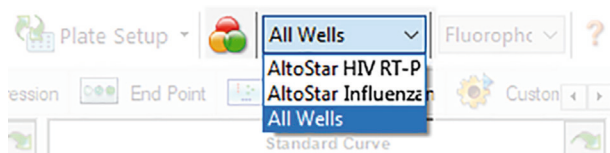

Figure 4: Well Group button and Well Group drop-down menu
In the Data Analysis window ensure to select the **Well Group** of the AltoStar® HIV RT-PCR Kit 1.5. Therefore, click on the **Well Group** drop-down menu right next to the **Well Group** button (see figure 4) of the toolbar. Do not use the “All Wells” **Well Group**. The selection in figure 4 is used as a general example view.
1. In the Data Analysis window ensure to select the **Well Group** of the AltoStar® HIV RT-PCR Kit 1.5. Therefore, click on the **Well Group** drop-down menu right next to the **Well Group** button (see figure 4) of the toolbar.